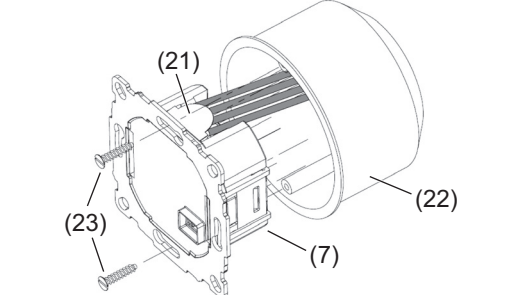

Fig. 5: Installation
- Align the insert (7) in the receptacle (22).
- Fix the insert with fastening screws (23). Install the insert so that the plastic tongue (21) functions as insulation against the fastening screw (Fig. 5).